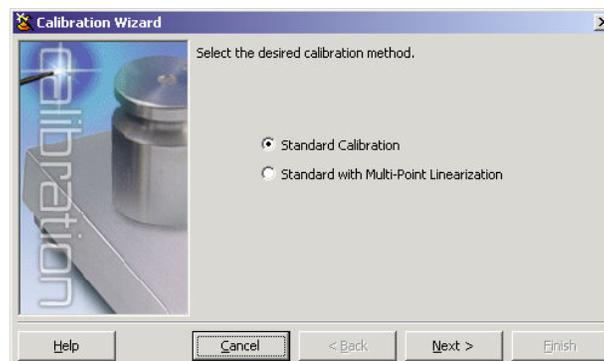

Figure 8. *iRev* Calibration Wizard
1. Select Standard Calibration (Figure 8). Press the **Next** button to continue.